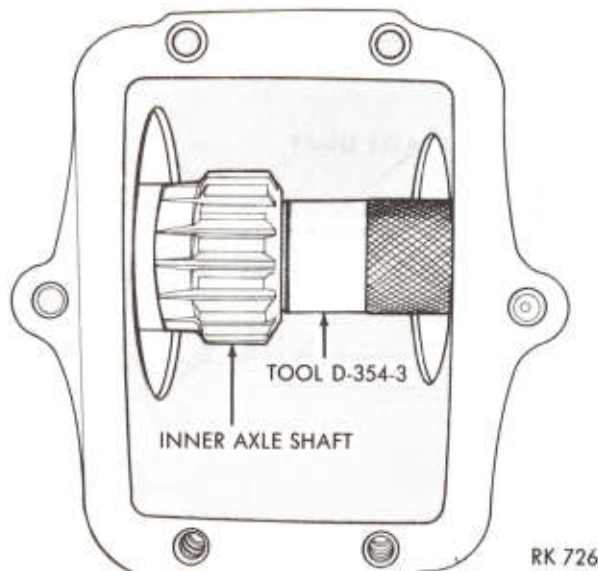
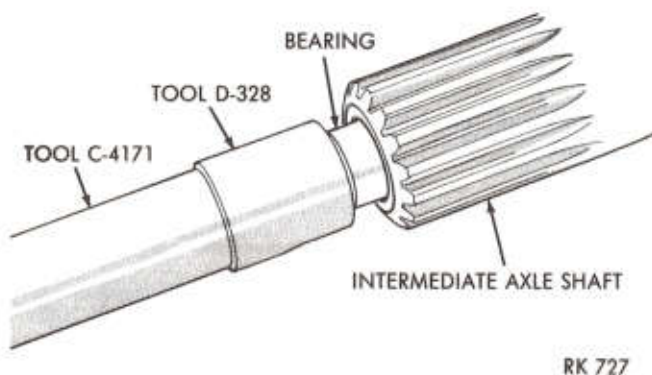

Fig. 19—Removing or Installing Inner Axle Shaft
Fig. 20—Installing Bearing into Intermediate Shaft
- (12) Loosen and remove differential cover screws and remove cover, drain lubricant into a container.
- (13) Push inner axle shaft toward center of vehicle and remove the "C" lock from recessed groove on shaft.
- (14) Using Tool D-354-4 and adapter D-354-3, remove inner axle shaft (Fig. 19).
- (2) Position inner axle shaft into axle housing using Tool D-354-4 and adapter D-354-3 (Fig. 19). Carefully slide axle shaft in place, install "C" lock in recessed groove of axle shaft.
- (3) Inspect inner axle shaft seal mounting surface and remove any material that may have remained in bore after old seal was removed. Clean outer axle bore with crocus cloth to remove rust from area where tool for installing inner axle shaft seal will be mounted.
- (4) Mount new axle shaft seal on Tool 5041-1 and position assembly in disconnect housing. Screw threaded bar (5041-2) through seal into Tool 5041-1. Place Tool 5041-3 and nut on end of bar and tighten until tool reaches shoulder of bar.
- (5) Install shift collar onto the splined end of inner axle shaft.
- (6) Install needle bearing into intermediate shaft using Tool D-328 and handle C-4171. (Fig. 20).
- (7) Lubricate splined end of intermediate axle shaft with a liberal amount of Multi-Purpose Lubricant, install through inner axle seal, **Care must be taken not to damage seal during this operation.**
- (8) Install disconnect housing cover assembly and gasket. **BE SURE TO GUIDE THE SHIFT FORK INTO THE GROOVE OF SHIFT COLLAR.**
- (9) Install disconnect housing cover shield and bolts, tighten to 10 ft. lbs. (14 N·m).